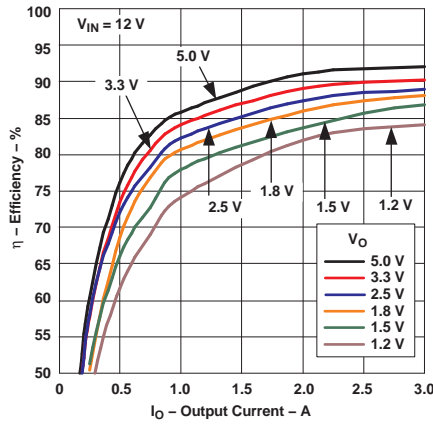
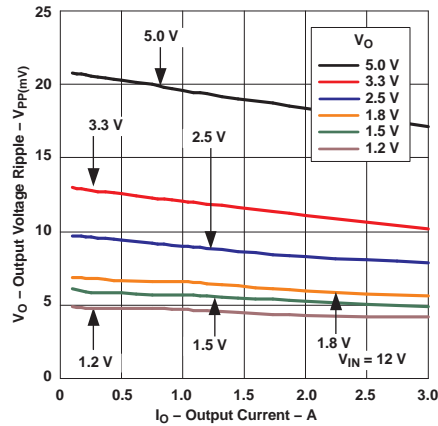
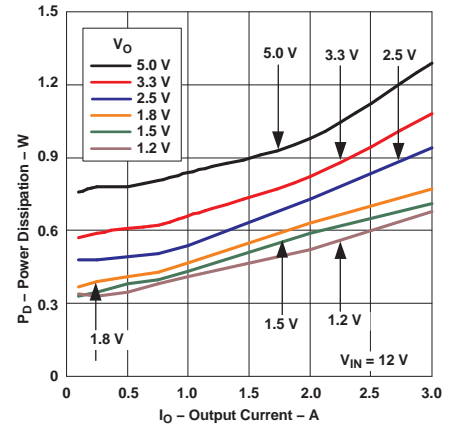

Figure 1. Efficiency vs. Output Current
Figure 2. Output Ripple vs. Output Current
Figure 3. Power Dissipation vs. Output Current
- (1) The electrical characteristic data has been developed from actual products tested at 25°C. This data is considered typical for the converter. Applies to Figure 1, Figure 2, and Figure 3.